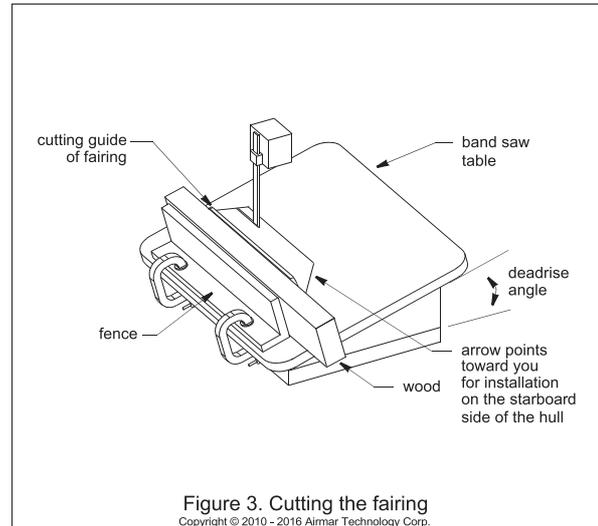

Figure 3. Cutting the fairing
- Measure the deadrise angle of the hull at the selected mounting location using an angle finder or a digital level (Figure 3).
- Adjust the cutting fence, so the fairing will be cut in about two equal parts (Figure 3). *The section that will become the fairing must be a minimum of 7mm (9/32") at its thinnest dimension.* This number corresponds to the flange on the fairing.